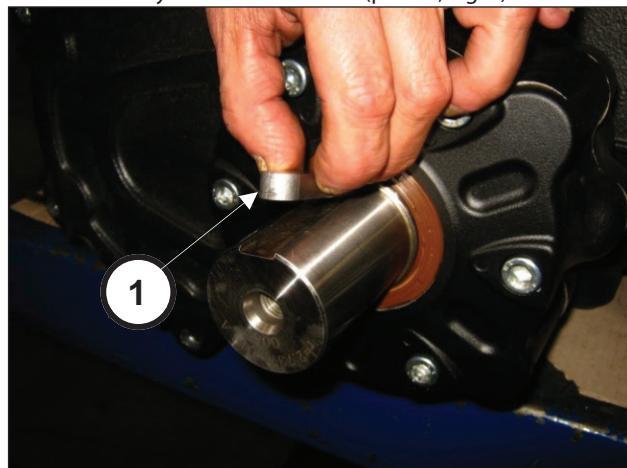

Fig. 3
Remove the key from the PTO shaft (pos. ①, Fig. 3).